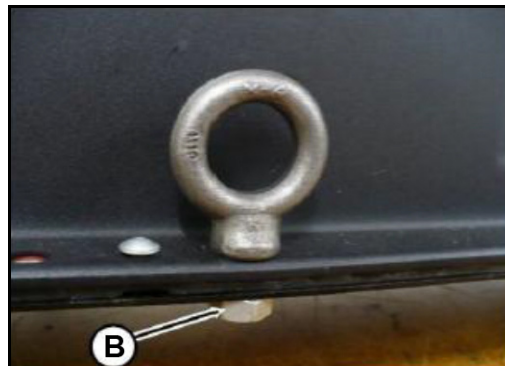

Figure 4B
4.2. Tighten the four eye-bolt nuts (Figure 4B).